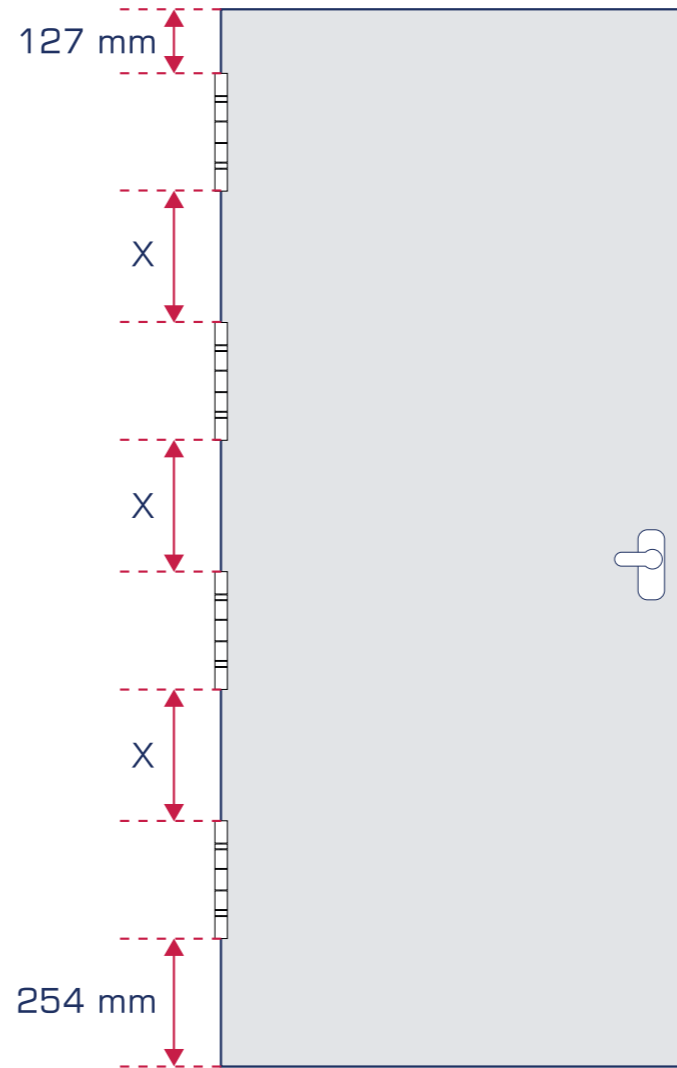

Figure 2
- If the door is over 7' (210 cm), of medium weight and without door closers, we recommend that all 4 hinges be equally spaced to prevent warping (figure 2).